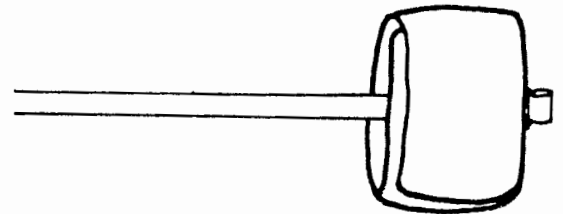

FIG. 19
12) Thread the pullup cord thru the grommet in the reserve top flap, remove the temporary pin, then pull the closing loop up thru the grommet and secure it with the actual ripcord. Insert the end of the ripcord pin into its protective pocket as shown in FIG. 19. Now check to see that there is a minimum of 2" or maximum of 4" extra length of ripcord cable at the handle. (This helps prevent an accidental activation of the reserve if the wearer bends forward, or if a hard opening stretches the harness.)
18) Fold the pilot chute in thirds as shown in FIG. 19.